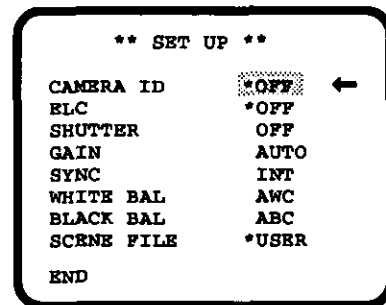
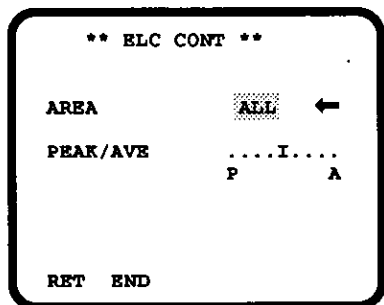
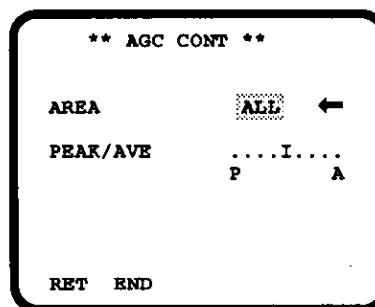

Fig.13.
Fig.22.
Fig.24.
- By pressing the Page Button (PAGE) for more than 2 seconds, the "SETUP" menu is displayed on the monitor screen as shown in Fig.13.
- Move the character cursor to "RET" position by using the Right Button (>) and press the Page Button (PAGE) to display SETUP Menu as shown in Fig.13.
- Display the SETUP menu as shown in Fig.13.
- Move the cursor to the "ELC" position by using the Item Button (ITEM) and select either the "ON" for ELC detection area control or "OFF" for AGC detection area control by using the Electronic light Control ON/OFF Switch (ELC ON/OFF) (12) on the front panel.
- Display the SETUP Menu as shown in Fig.13.
- Move the cursor to the "ELC" position by using the Item Button (ITEM) and set the Electronic Light Control ON/OFF Switch (ELC ON/OFF) (12) on the front panel to "ON" position to select the "ON" mode.
- Press the Page Button(PAGE) to set the detection area and the ELC detection control area (ELC CONT) is displayed as shown in Fig.22.
- Move the cursor to the "ELC" position by using the Item Button (ITEM) and set the Electronic Light Control ON/OFF Switch (ELC ON/OFF) (12) on the front panel to "OFF" position to select the "OFF" mode.
- The AGC detection control area (AGC CONT) is displayed as shown in Fig.24.